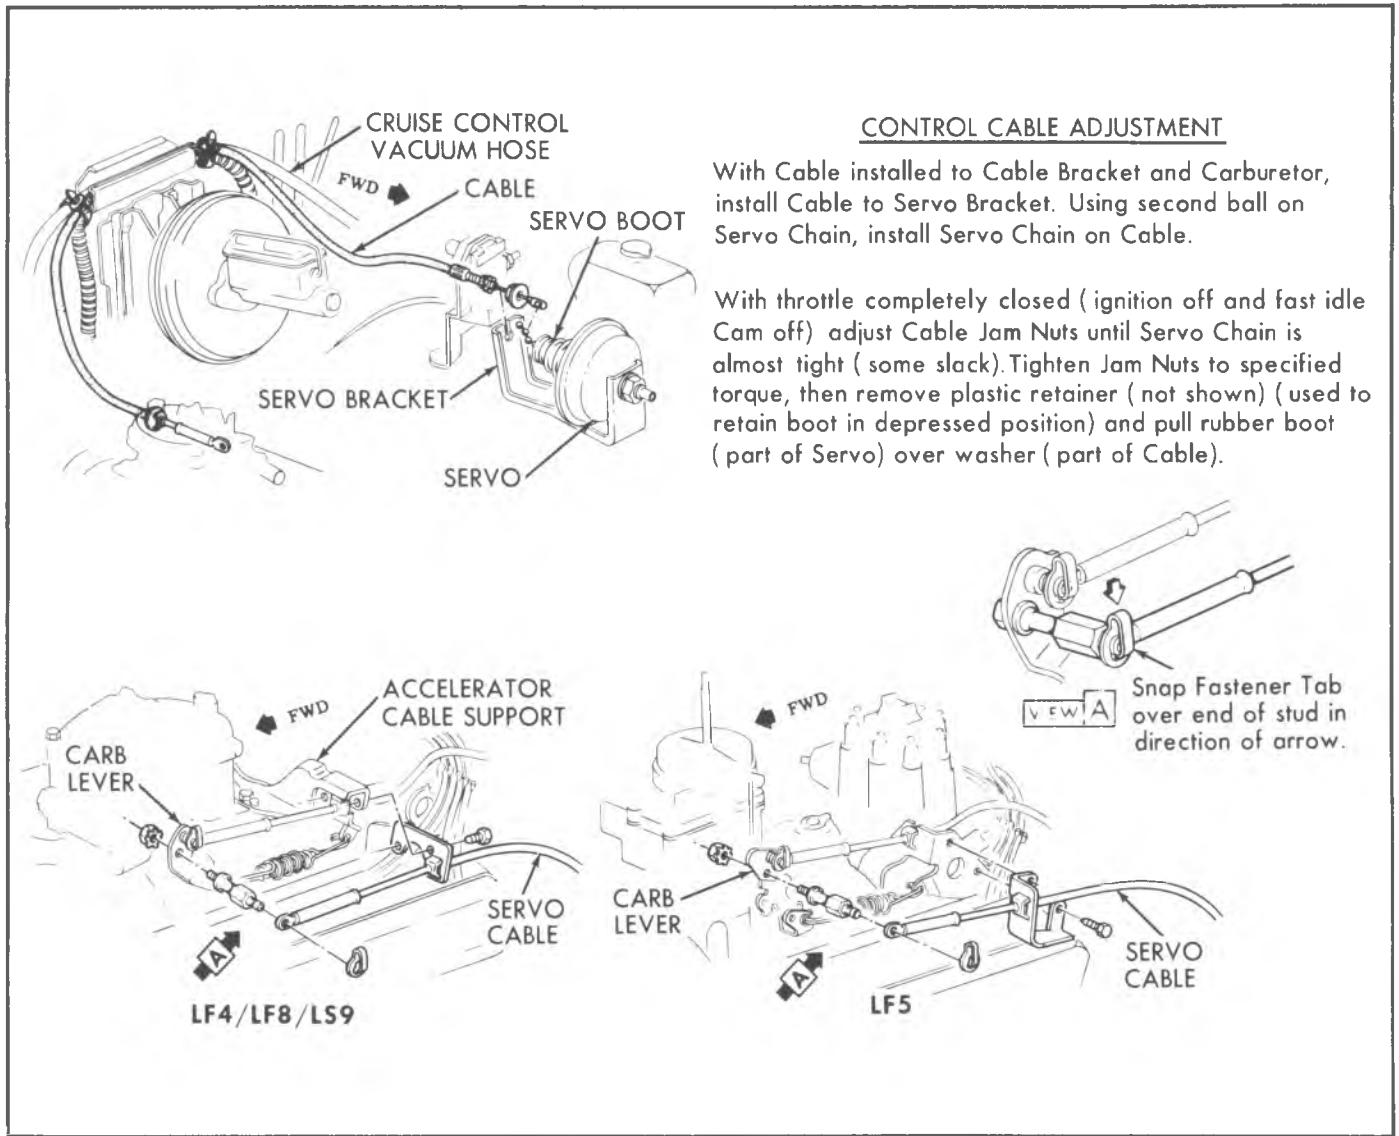

Fig. 4C--Servo Composite (C-K Trucks)
### SERVO UNIT (FIG. 4C)
Before adjusting the Servo Cable, make sure the carburetor is set at its lowest idle throttle position by manually setting the fast idle cam at its lowest step with the ignition switch "OFF". Adjust the cable so there is as little lost motion at the Servo as possible (see Fig. 4C).
6. Adjust the servo cable as outlined in Figure 4C.